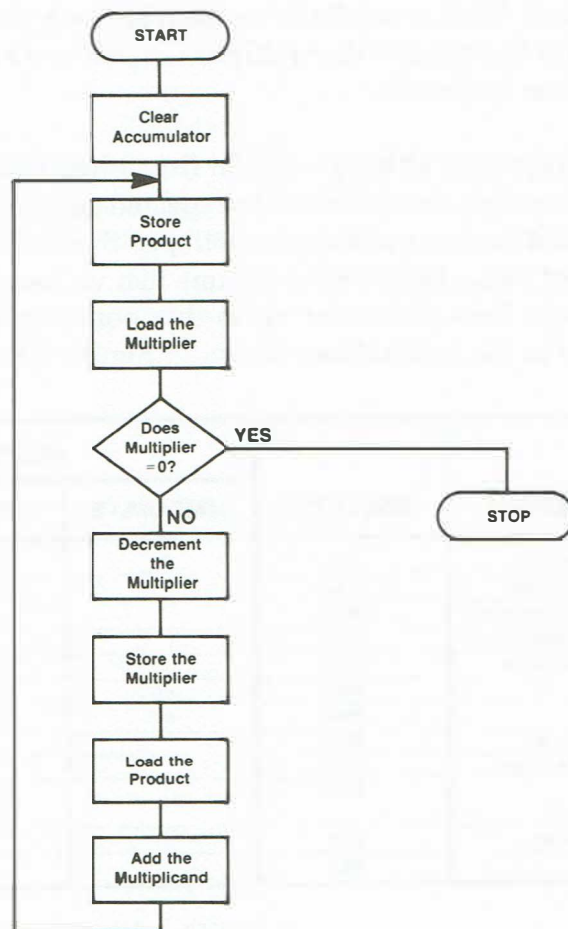

Figure 5-13
Figure 5-13 is a flow chart that illustrates the algorithm. In the first two steps, the MPU clears the accumulator and stores the resulting number (0) in the product. This ensures that the product is zero before the first number is added. Next, it loads the multiplier and checks to see if the multiplier is 0. If so, the process is stopped since a multiplier of 0 dictates a product of 0.